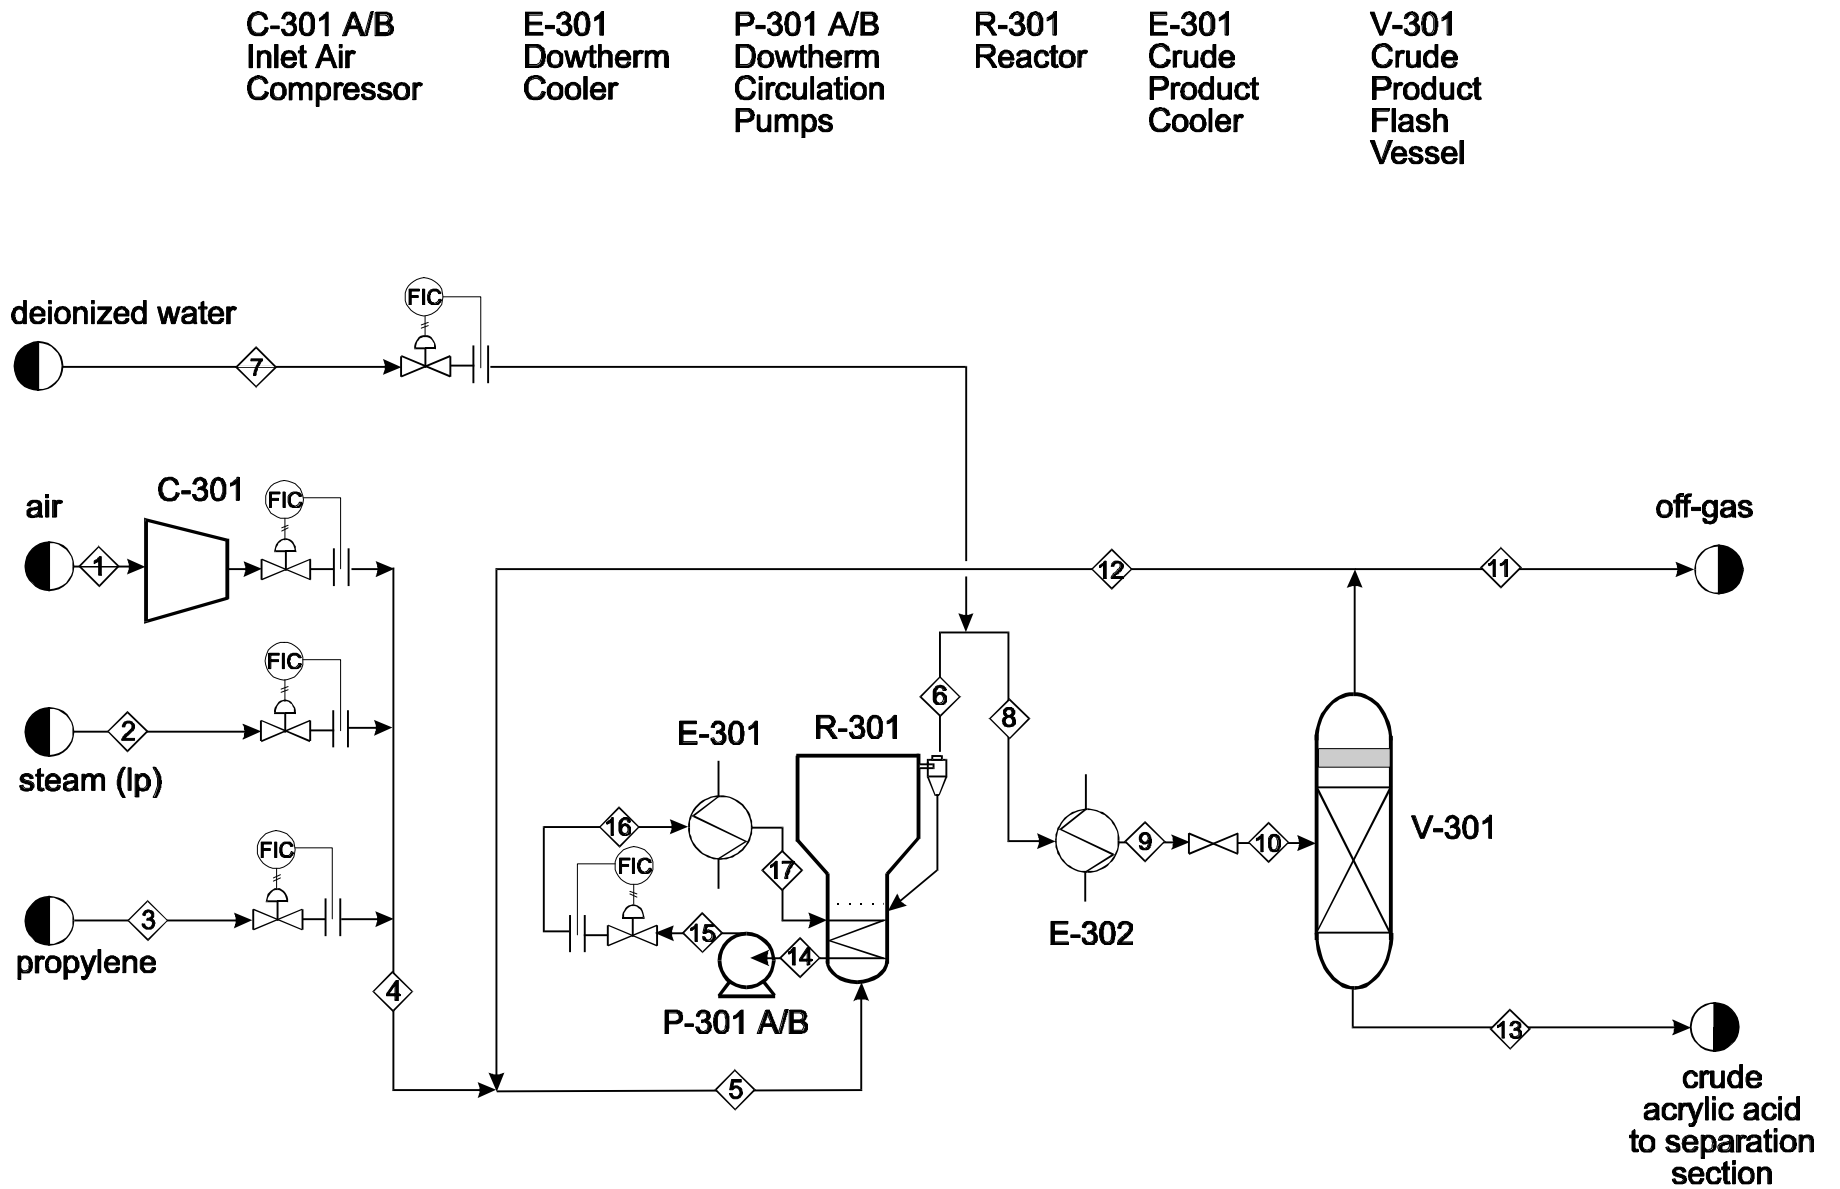
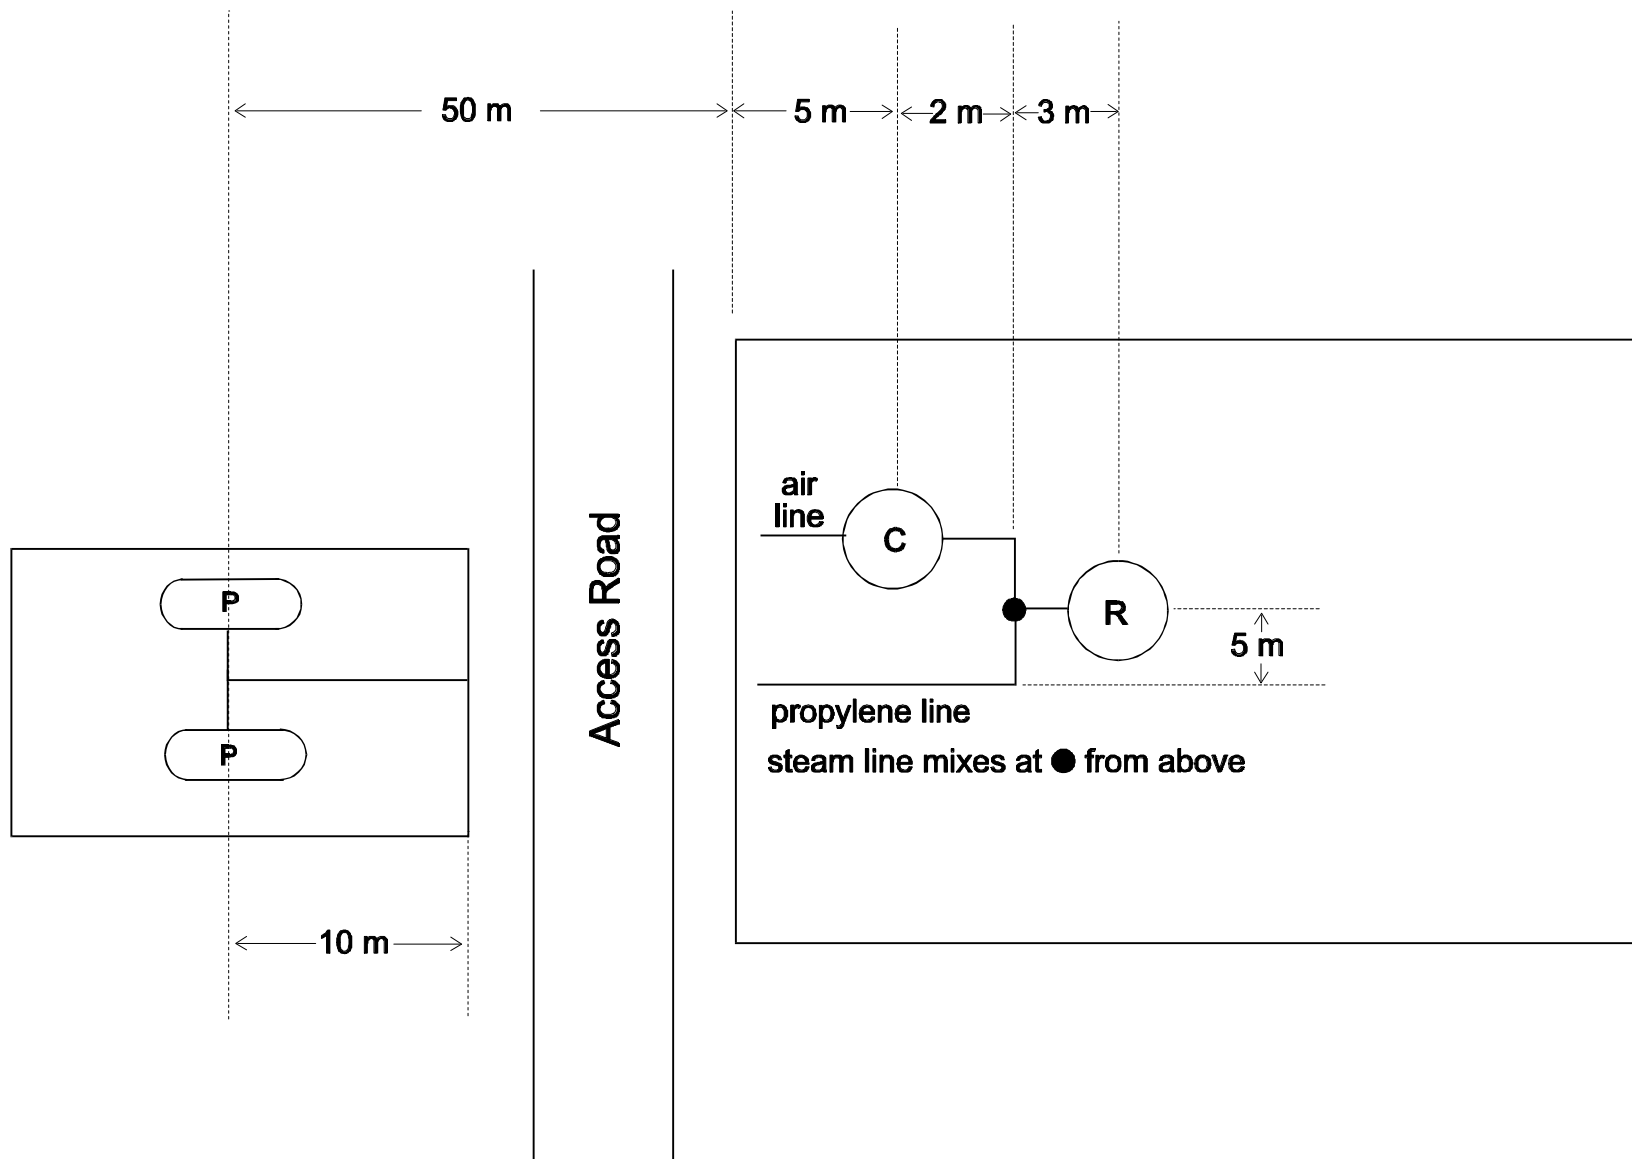

Figure 1: PFD for Unit 300 - Acrylic Acid from Propylene
Figure 2: Partial Plot Plan for Acrylic Acid Production Feed Section
The PFD for the reaction section is given in Figure 1. The propylene is stored in tanks which are not shown. There are two tanks, each holding a one-day supply, one in a filling mode and the other in a feeding mode. The propylene is stored at ambient temperature (which may be assumed to be 25°C) as a vapor/liquid equilibrium mixture, and the feed to the process may either be vapor (drawn from the top of the tank) or liquid (drawn from the bottom of the tank). The feed to the reactor must be at 4.3 bar and the crude acrylic acid product (in the liquid phase) may not exceed 90°C. The pressure drops across process units at base case
1. **Optimization of the Feed Section.** (ChE 110(fluids) and 142(thermo)) Refer to Figure 1. You are to determine the optimum pipe sizes for Streams 1-4. Equivalent pipe lengths can be determined from the attached plot plan (Figure 2). Pipe runs are at 4 m elevation off the ground, and you should add 90° elbows as necessary. The objective function is the Equivalent Annual Operating Cost (EAOC) of the feed section (\$/y). The *EAOC* is defined as: